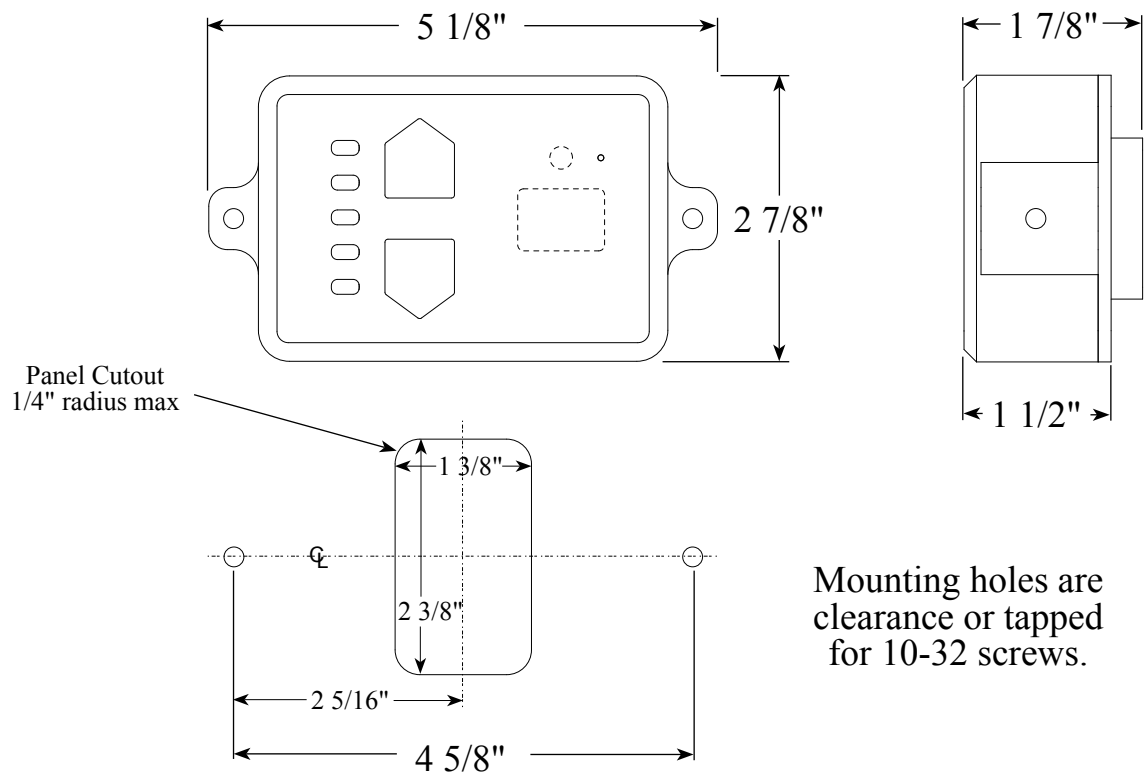

Figure 1. ICA900 Control Module Dimensions
1. Measure and mark mounting location for control module bracket. Refer to Figure 1 for layout and dimensions.
1. Measure and mark mounting location for control module panel cutout and mounting screw holes. Make sure there is clearance behind the panel for the connector and wiring before cutting holes. Refer to Figure 1 for layout and dimensions.